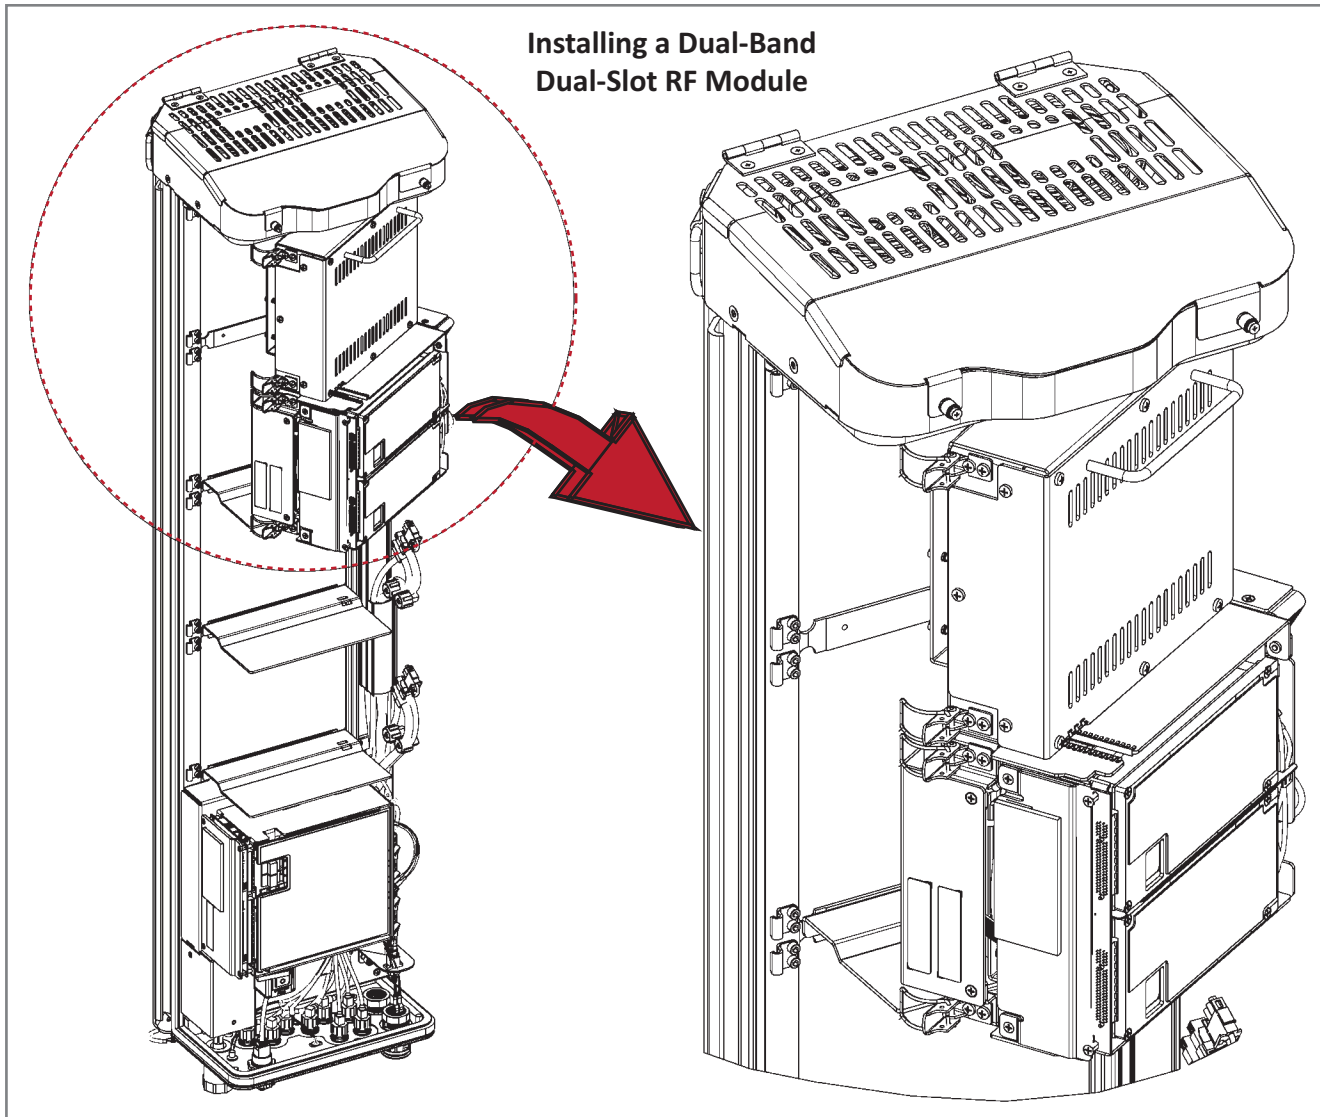

Figure 23. Installing a Dual-Bay RF Module
- Dual-Bay RF Module: Figure 23 on page 88